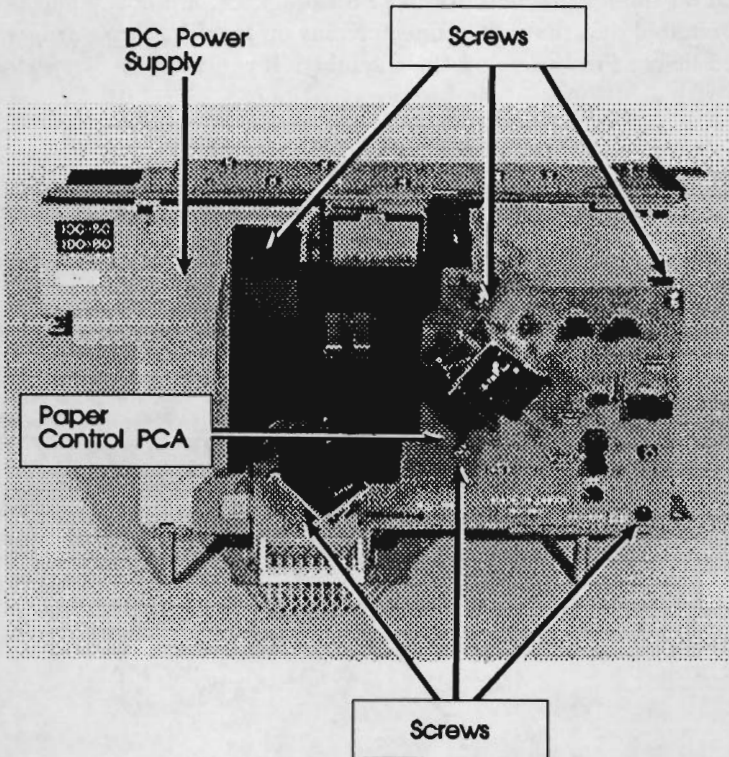

Figure 6-30. Paper Control PCA Removal
The Paper Control PCA is attached to the DC Power Supply as shown in Figure 6-30.
2. Remove the (1) screw in the Paper Control PCA Cover.
3. Remove the (6) screws that secure the Paper Control PCA to the DC Power Supply Assembly (see Figure 6-30).